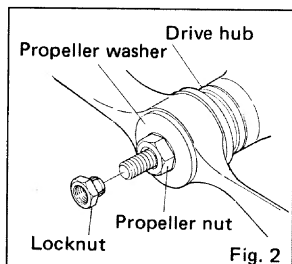

Fig. 2
3. Finally, insert the Safety Propeller Locknut. Tighten Locknut firmly (but not with excessive force) using 14mm wrench. (see Fig. 2)